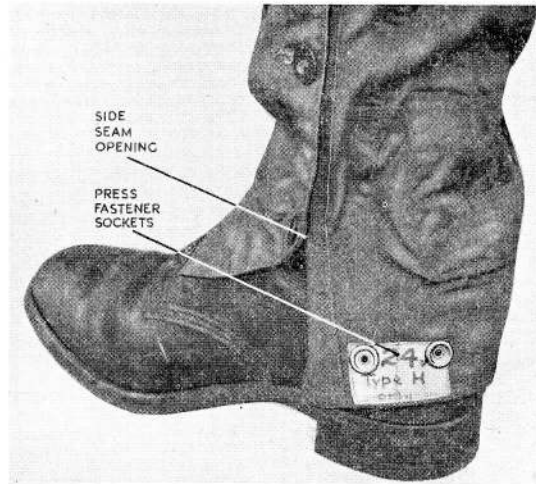

Fig. 6. Lining, lower leg
10. The bootees (*fig. 5*) have an outer layer of gaberdine, to which the heating element is attached, and a lining of stockinette fleece. The ends of the heating element are riveted to press-stud fasteners on the inside of the bootee. The studs connect with corresponding sockets on the leg of the lining (*fig. 6*).